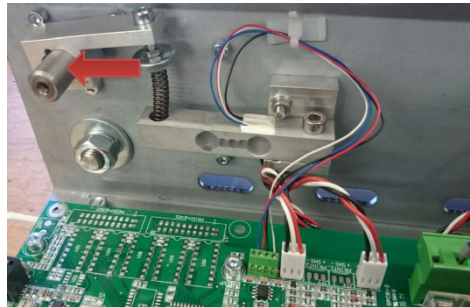

Figure 6
8. When a new PCB board or load cell is installed, place the test jumper on the TEST connector and add the extra weight on top of the load cell. **Fig. 6, 7**